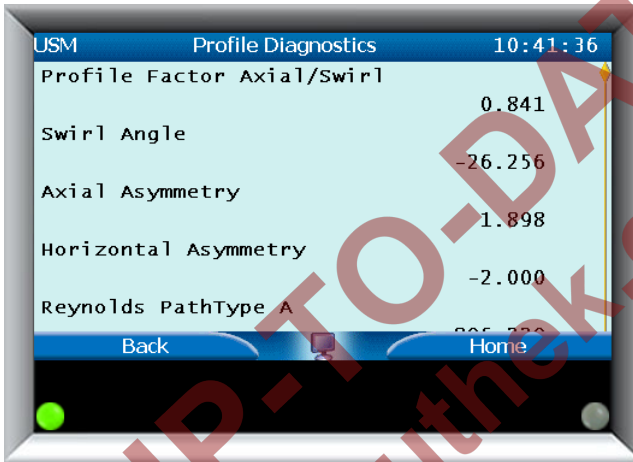

Figure 7-14: Profile Diagnostics
**Profile Diagnostics** displays an array of useful calculations including: Profile Factor Axial/Swirl, Swirl Angle, Axial Asymmetry, Horizontal Asymmetry, Reynolds PathType A and Reynolds PathType B. Please see Figure 7-14 below.